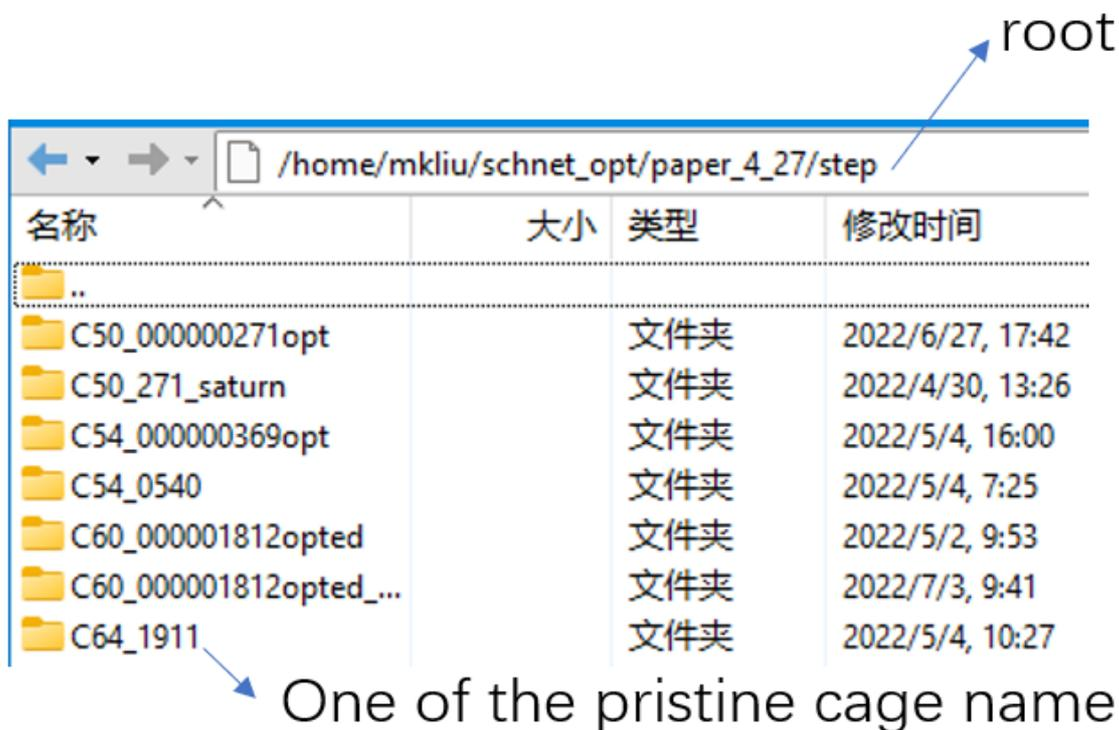

Fig 4. An `AutoSteper` workbase.
- `root`: the ABSOLUTE path to the growth simulation workbase, where the `AutoSteper` would make a directory in the name of the pristine cage. Fig 4 presents one of the workbase directory.